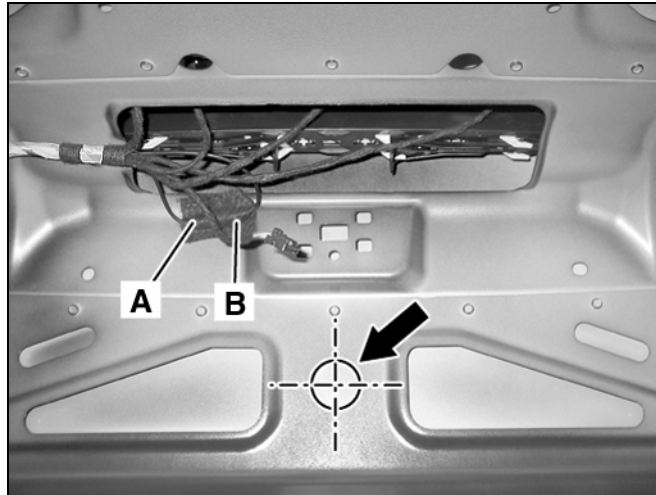

Figure 4
8. Peel back felt tape from underside of trunk lid to locate antenna connectors (A, B, Figure 4) and roll back foam sleeve on connectors.
9. Connect the vehicle leads (A, B, Figure 4) to the connectors on the SDAR antenna cables (A, figure 5) and secure connection with plastic clips (attached to vehicle antenna leads). Roll back felt tape over connectors.